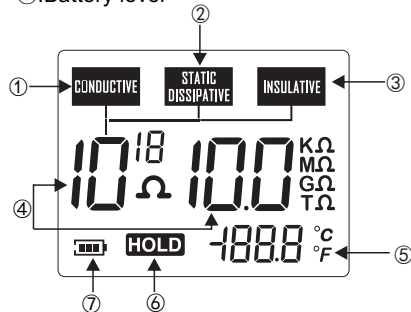

Figure 1
1. LCD full-screen display: see the following figure (Figure 1)
- ①. Conductor display
- ②. Anti-static material display
- ③. Insulating material display
- ④. Resistance value display
- ⑤. Temperature value
- ⑥. Data holding
- ⑦. Battery level